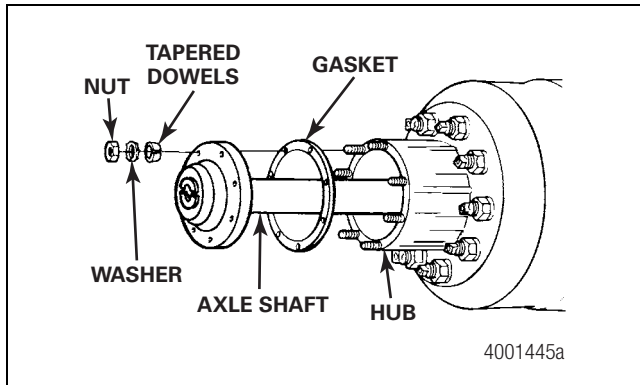

Figure 3.4
6. Remove the stud nuts and washers from the flanges of both axle shafts. Figure 3.4.